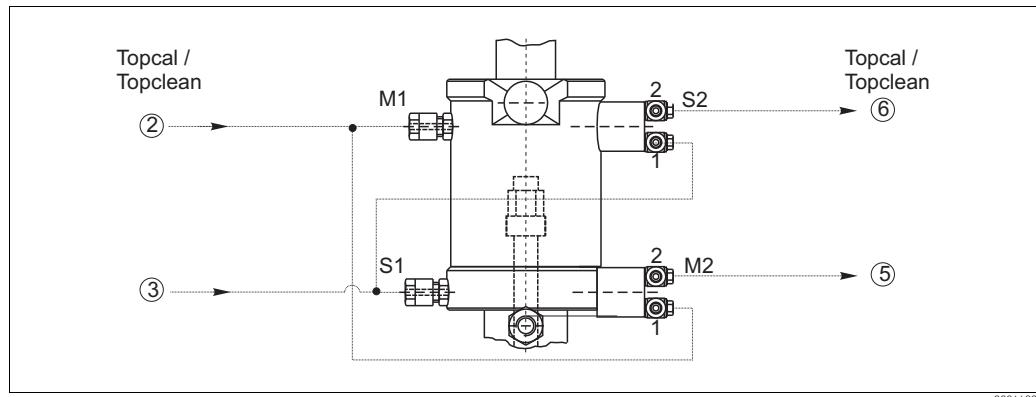

Fig. 11: Pneumatic connections and pneumatic limit position switches (1=inlet, 2=outlet)
1. Connect the compressed air supply line for "Assembly measuring" (Topcal/Topclean: hose no. ②) to the upper G 1/8 pneumatics connection (→ Fig. 11).
2. Also, connect the compressed air supply line no. ② to the inlet (1) of the lower limit position switch (M2, via T-piece). This limit position switch supplies the position feedback signal "Assembly measuring".
3. When the "Measuring" position is reached, the air applied to the inlet M2 (1) is switched through and can be tapped at the outlet M2 (2) (Topcal/ Topclean: connect hose ⑤ to the limit position switch outlet).
4. Connect the compressed air supply line for "Assembly service" (Topcal/Topclean: hose no. ③) to the lower G 1/8 pneumatics connection.
5. Also, connect the compressed air supply line no. ③ to the inlet (1) of the upper limit position switch (S2, via T-piece). This limit position switch supplies the position feedback signal "Assembly service".
6. When the position "Service" is reached, the air applied to the inlet S2 (1) is switched through and can be tapped at the outlet S2 (2) (Topcal/ Topclean: hose no. ⑥).